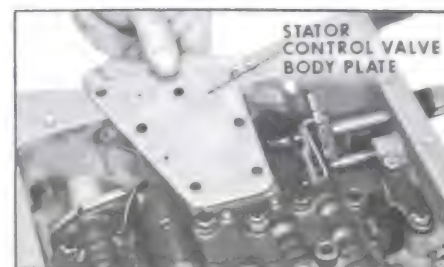

Figure 5-345
6. Install the stator control valve plate. See Figure 5-345.